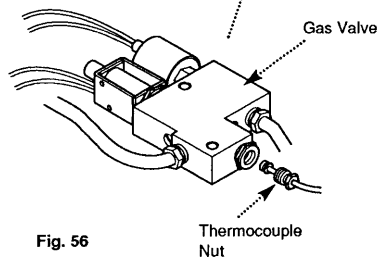

Fig. 56
3. Undo the thermocouple nut from the rear of the gas valve (Fig. 56) and remove the thermocouple from the burner tray.